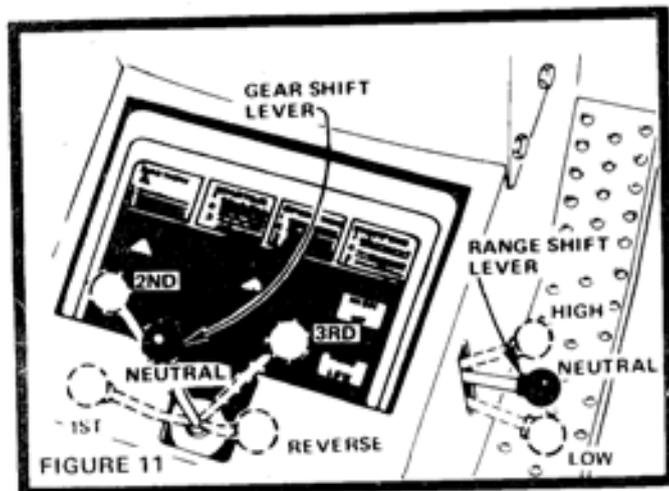

FIGURE 11
3. Place Gear Shift Lever in neutral "N" position (Fig. 11).
4. Move Range Shift Lever to "N" neutral position (Fig. 11).